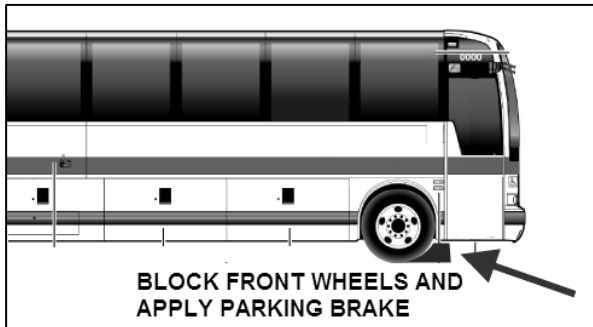

Figure 5
- 1) Apply parking brake and block front wheels.(Fig. 5)